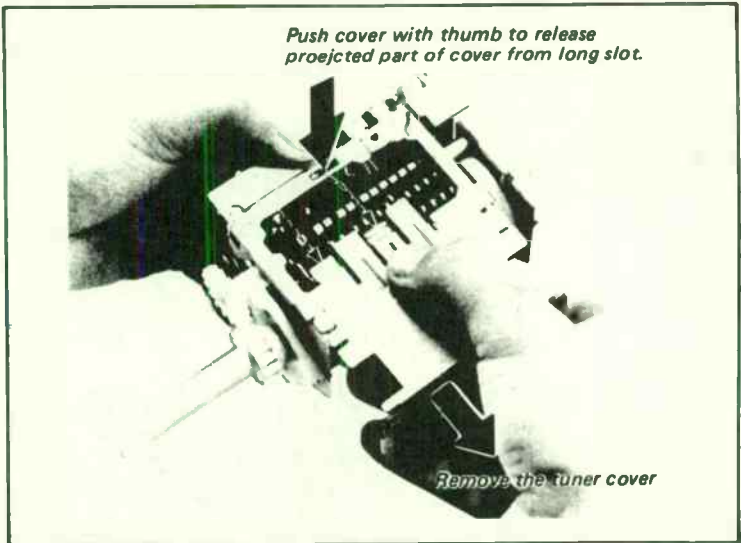

Fig. 6-8. Tuner cover being removed.
■ Remove the tuner cover as shown in Fig. 6-8.